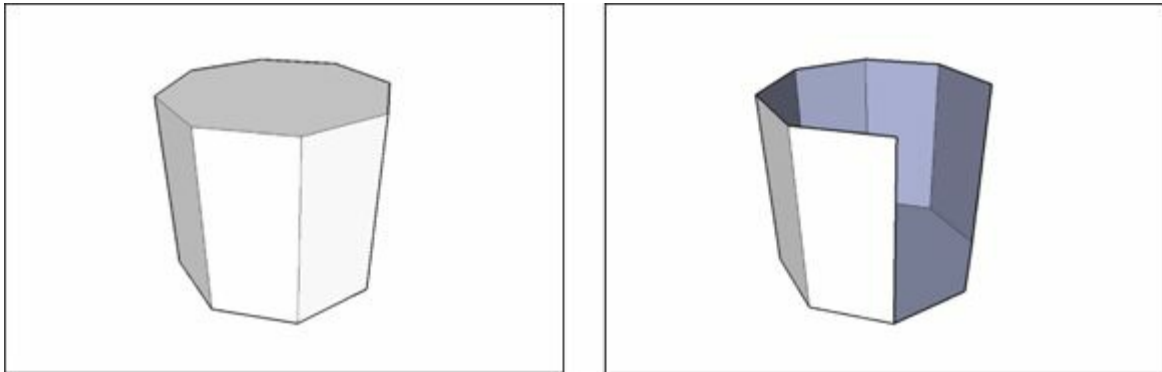

FIGURE 3-4: You need at least three edges to make a face.
- » **You can't have faces without edges.** To have a face, you need to have at least three *coplanar* (on the same plane) edges that are connected. In other words, a face is defined by the edges that surround it, and those edges all have to be on the same, flat *plane*. Because you need at least three straight lines to make a closed shape, faces must have at least three sides. There's no limit to the number of sides a SketchUp face can have, though. Figure 3-4 shows how faces can disappear when you erase an edge that defines one or more faces. We started with the model on the left and deleted the edge that completed both the top face and one of the side